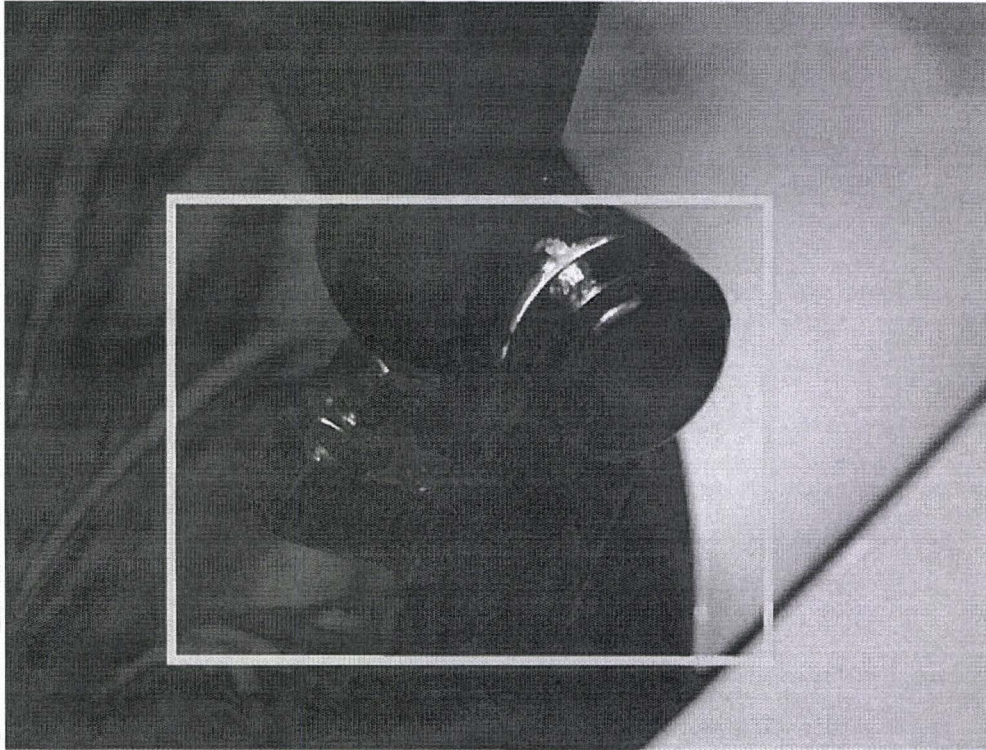

Figure 7
- Check the tonneau cover is secure against the left and right hand lock stops on the hinge mechanism (Figure 7) for clarity Figure 7 shows the left hand lock stop